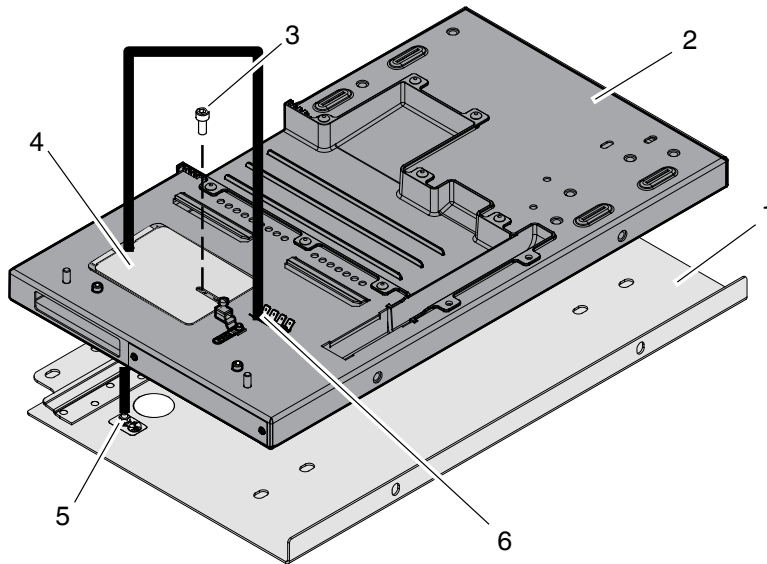

Figure G-7 Connecting ground wire from expansion base (some components not shown)
- a. Connect the ground lead from the sub-base to the lug at the bottom of the melter electrical enclosure (Figure G-7).